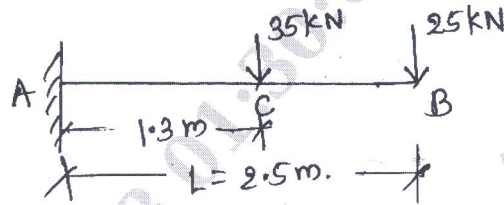

Fig. Q7 (b)
b. Determine the slope and deflection at the free end of the Cantilever beam shown in Fig. Q7 (b) by moment area method. Take  $E = 2 \times 10^8 \text{ kN/m}^2$  and  $I = 1.5 \times 10^{-4} \text{ m}^4$ . (10 Marks)